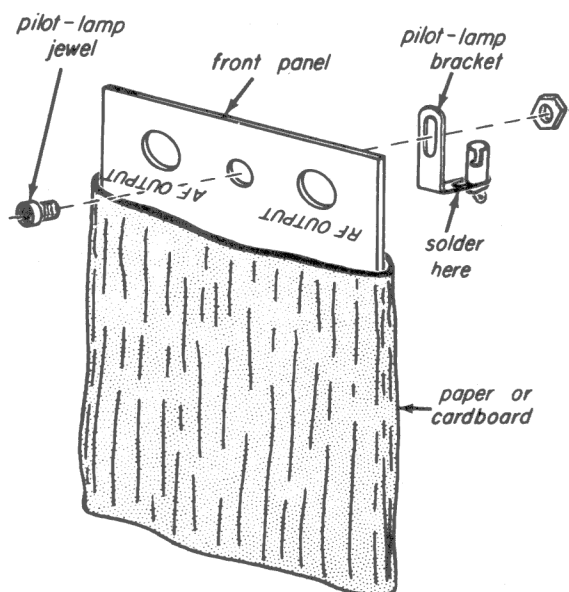

Fig. 20-5
Step 1. Wrap the front panel in heavy paper or thin cardboard, leaving the row of holes at the bottom of the front panel exposed, as shown in Fig. 20-5. This will help to prevent the face of the front panel from becoming scratched. Hold the wrapping in place with tape or rubber bands.
Step 2. Using a long-nose pliers, turn the upper terminal lug on the pilot-lamp light socket so that it points into the corner of the bracket, as shown in Fig. 20-5. Squeeze the lug down tight against the bracket with the pliers, and solder the lug to the bracket. Be sure to heat the joint until the solder flows readily; then hold the lug in place until the solder cools. Turn the other lug until it is 1/4 turn from the first, as shown in the figure.
Step 3. Mount the pilot-lamp jewel and bracket assembly as shown in Fig. 20-5. Before tightening the nut, put the lamp in the socket, and adjust the position of the bracket until the lamp filament is opposite the jewel.